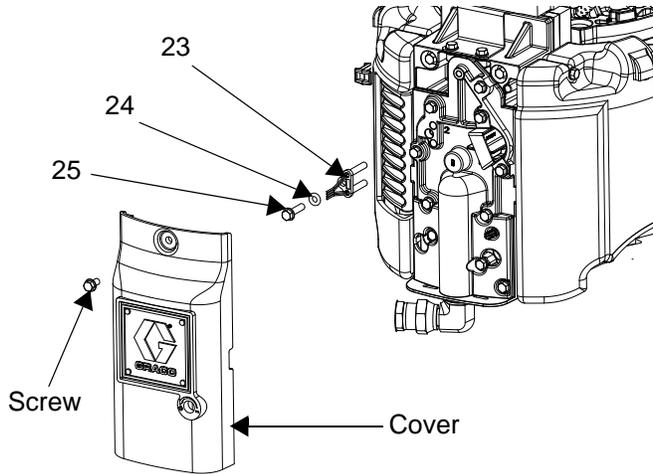

FIG. 87: Install Reed Switch Sensor
- i. Remove the screw on the valve cover to remove the cover. See FIG. 87.
- j. Install the reed switch sensor (23). Secure with the 1 in. (255 mm) screw (25) and o-ring (24) provided.